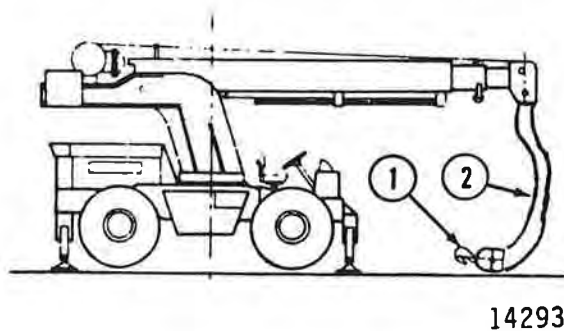

Figure 119
3. Lower boom until hook block (1, Figure 119) is resting on ground and wire rope (2) is slack.